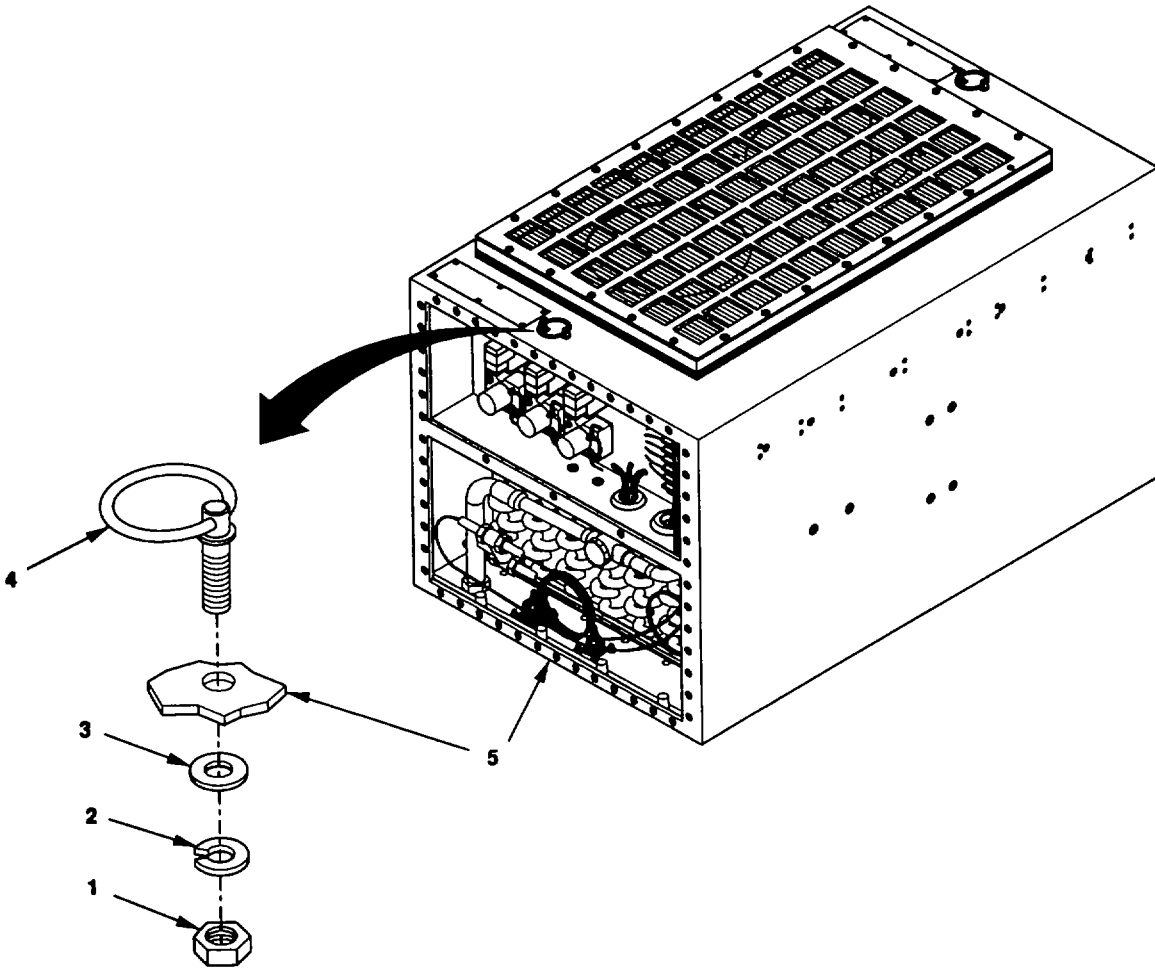

Figure 4-7. Lifting Ring Replacement.
- a. Remove. Remove nut (Figure 4-7, 1), lock washer (2), flat washer (3), and lifting ring (4). Discard lock washer (2).